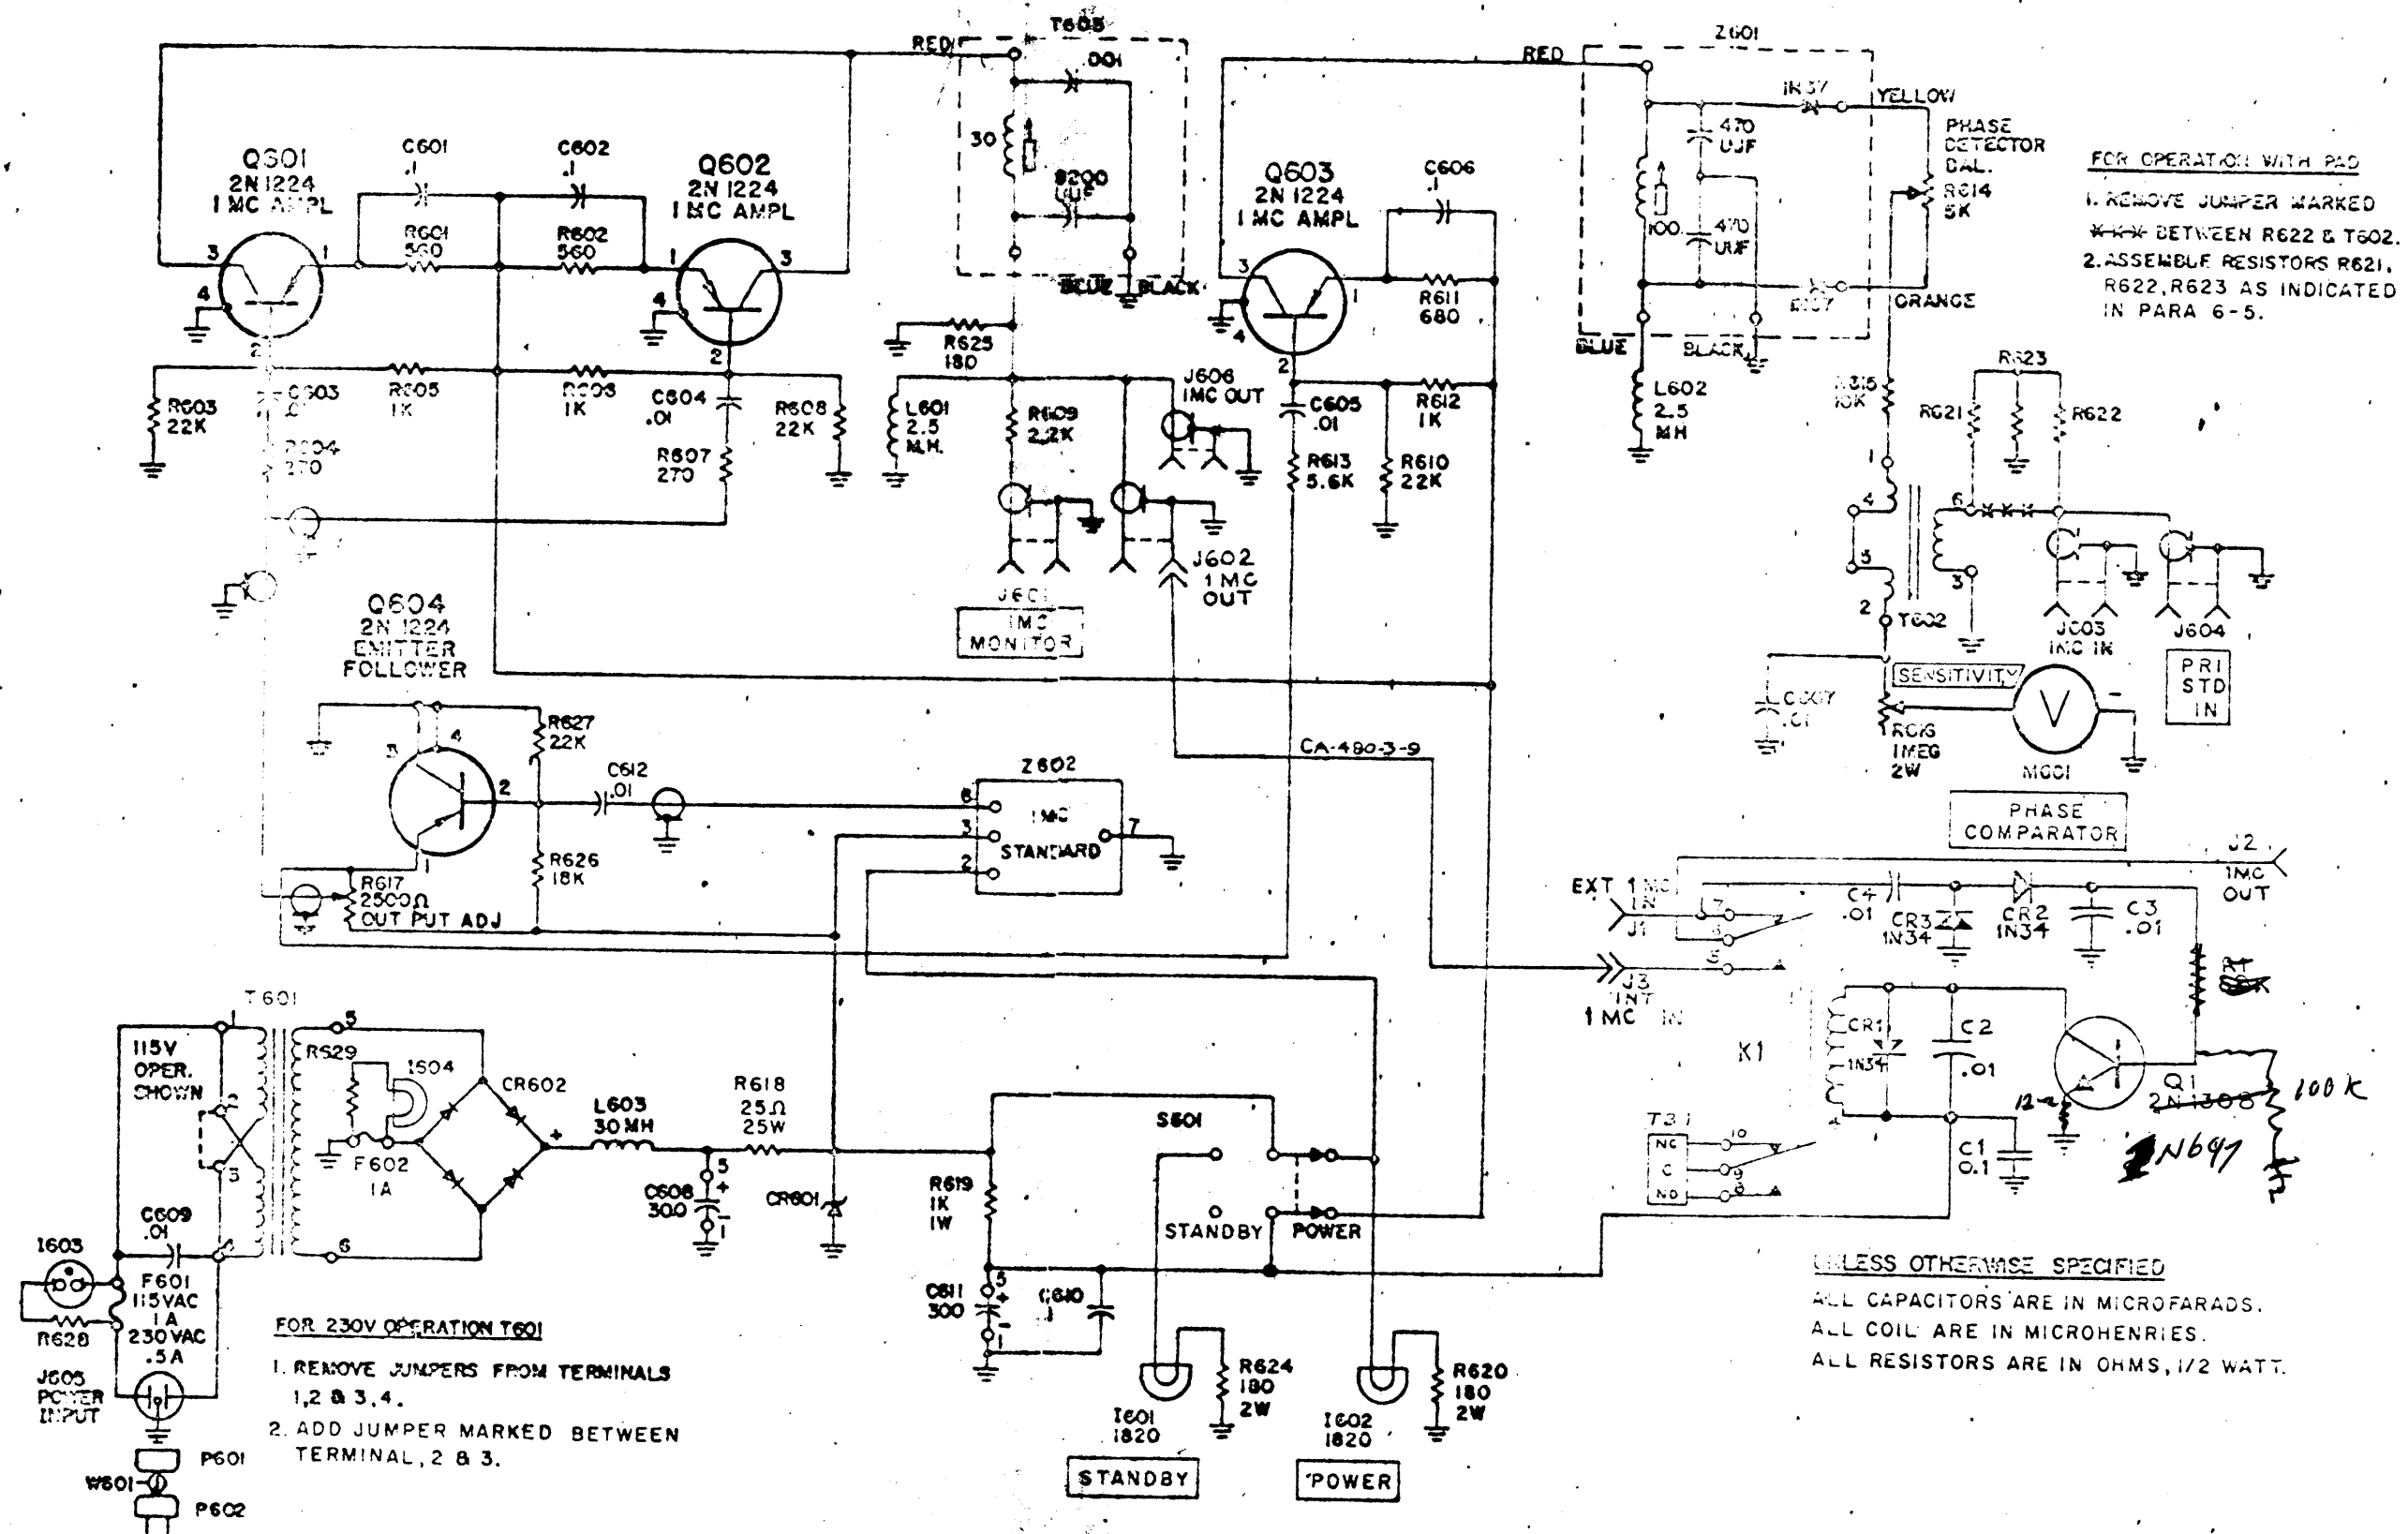

Figure 8-1. Frequency Standard CSS-1C Schematic Diagram
1. Remove figure 8-1 (pp8-3/8-4) from CSS-1B manual and insert new figure 8-1 supplied with this temporary correction. Keep removed figure 8-1 for support of equipments that have not been modified.